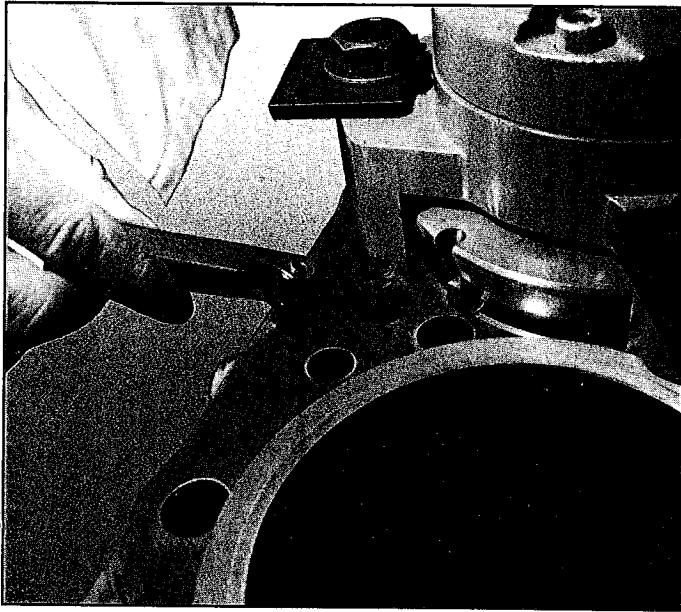

Figure 8
7. Place a 0.004 inch feeler gauge between the block and the cutter. Open feed valve and lower cutter plate until it rests on the feeler gauge. (See Figure 8) Tighten swivel pad set screw to secure cutter in place.